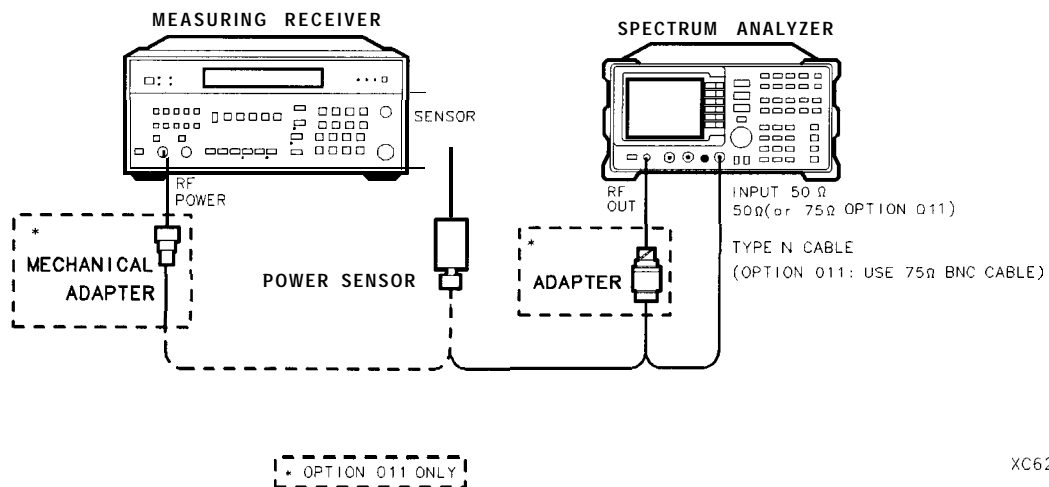

Figure 2-87. Absolute Amplitude, Vernier, and Power Sweep Accuracy **Test** Setup
1. Connect the Type N cable between the RF OUT 50  $\Omega$  and INPUT 50  $\Omega$  connectors on the spectrum analyzer. See Figure 2-87.
5. Disconnect the Type N cable from the RF OUT 50  $\Omega$  and connect the 100 kHz to 1800 MHz power sensor to the RF OUT 50  $\Omega$  as shown in Figure 2-87.